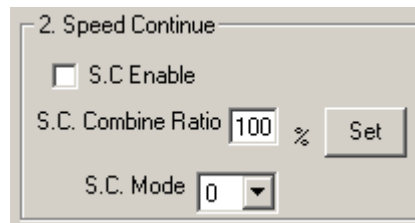

Figure 3.158
**Example 1 item:** Clicking on this will enter a Speed Continue demonstration programs shown in Fig. 3.158.